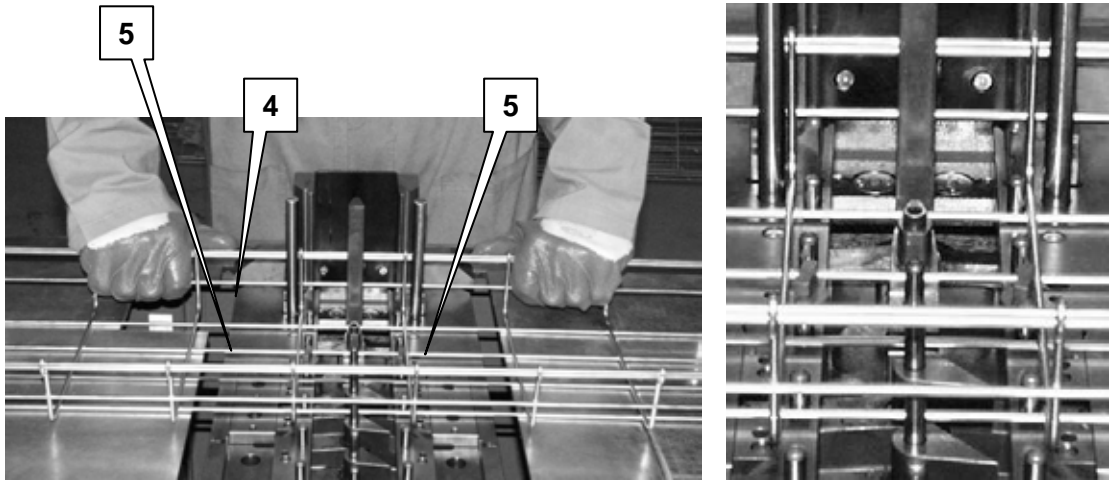

Fig. 4.66 – Gangway positioning
4. push downwards the gangway **4** until it leans on the arms **5** (fig. 4.66);